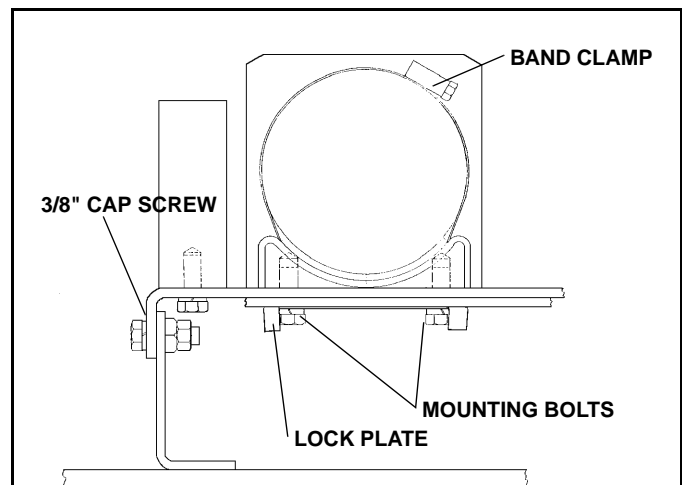

Figure 2-2
5. Remove two 3/8" Cap Screw securing Pump unit to A-Frame.(See Figure 2-2)
6. Loosen Band Clamp.(See Figure 2-2)
7. Tilt Power unit up and remove two 3/8" Cap Screw securing Pump unit to frame.(See Figure 2-2)